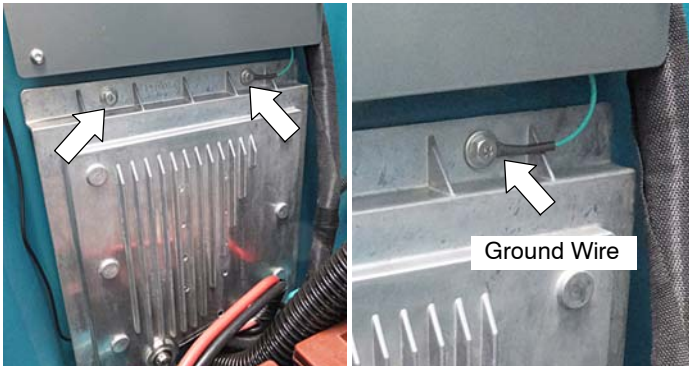

Fig. 7
9. Re-install the heat-sink panel to machine. Make sure to reconnect the ground wire to panel (Figure 7).